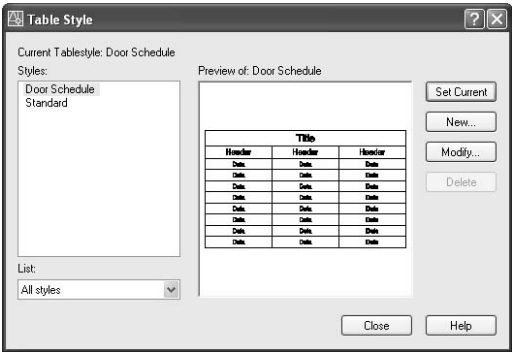

FIGURE 10.45: The Table Style dialog box with Door Schedule as the current table style
- 14.** Back in the Table Style dialog box, in the Styles list, click Door Schedule to highlight it, and then click the Set Current button to make it the current table style (see Figure 10.45). Then click Close.